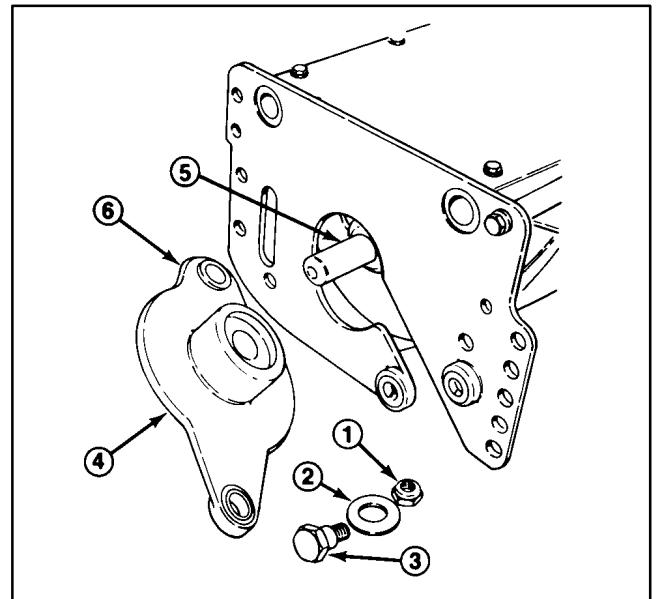

Figure 20
2. Remove the shoulder bolts, bushings and spacers from each end of the unit and remove the bedbar/bed-knife assembly (Fig. 20).
3. Remove the inboard locknut from the adjuster pin, the fasteners for the bracket and remove the adjusting handle assembly from the side plate (Fig. 20).
1. Inspect the flange bushings in the mounting holes for the drive housing and bearing housing for wear (Fig. 20). Replace, if necessary.
7. Insert the shoulder bolt through the Belleville washer and rear housing mounting hole. Slide the bolt through the side plate mounting hole (Fig. 20). Install the cone nut locknut onto the bolt. Tighten the cone nut to 45 – 55 ft.-lbs.